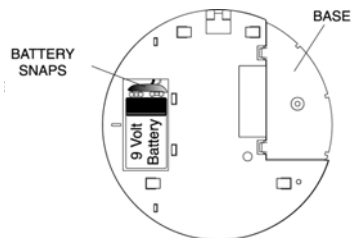

Figure 5: Attaching a 9V Battery to the Battery Snap
2. Connect a 9V battery to the battery snaps as shown in Figure 5. When the battery is first connected the Alarm may sound for 2-3 seconds and/or the red light may flash quickly for 10 seconds – this is normal.
Check the battery snaps are firmly connected – see Figure 5.